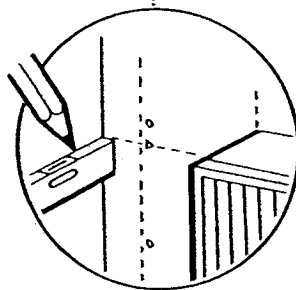

Fig. 35
6. Extend the horizontal centre line around the corner for approximately 300mm (12 in). Ensure that the line remains horizontal by checking with a spirit level (Fig. 35).